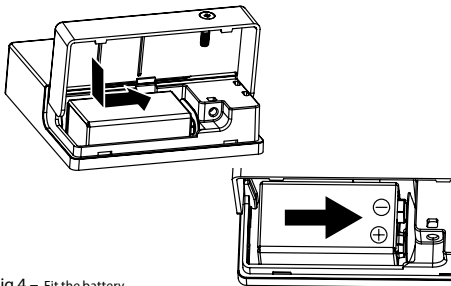

Fig 4 – Fit the battery
- 4.3 Fit the 9V battery (supplied) maintaining the correct polarity. (Fig. 4)